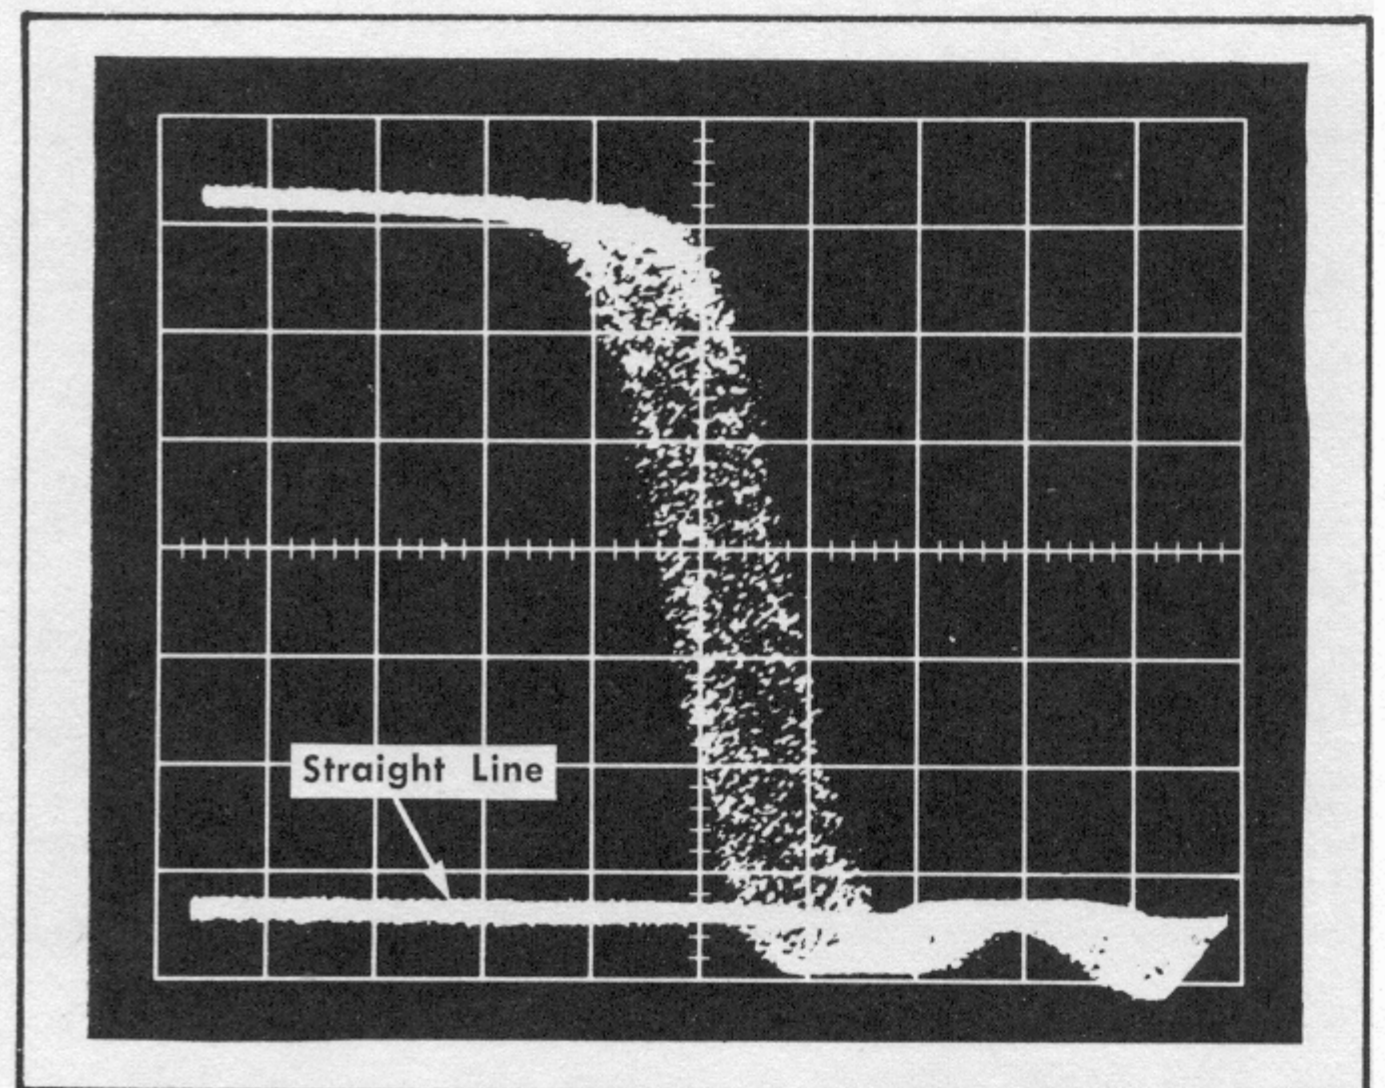

Fig. 6-28. Unity loop gain display.
d. Set the Sampling System for unity gain; turn the Timing Unit Stability or UHF Sync control clockwise until the display is double triggered. Set the Sampling Unit Smoothing control so the bottom of the display is at the same level, see Fig. 6-28. Set the Timing Unit Stability or UHF Sync control counterclockwise and set the Sampling Unit Variable control for an amplitude of 8 cm. The Delayed Pulse Gen. Bias control, R990, may now be readjusted for the best display.